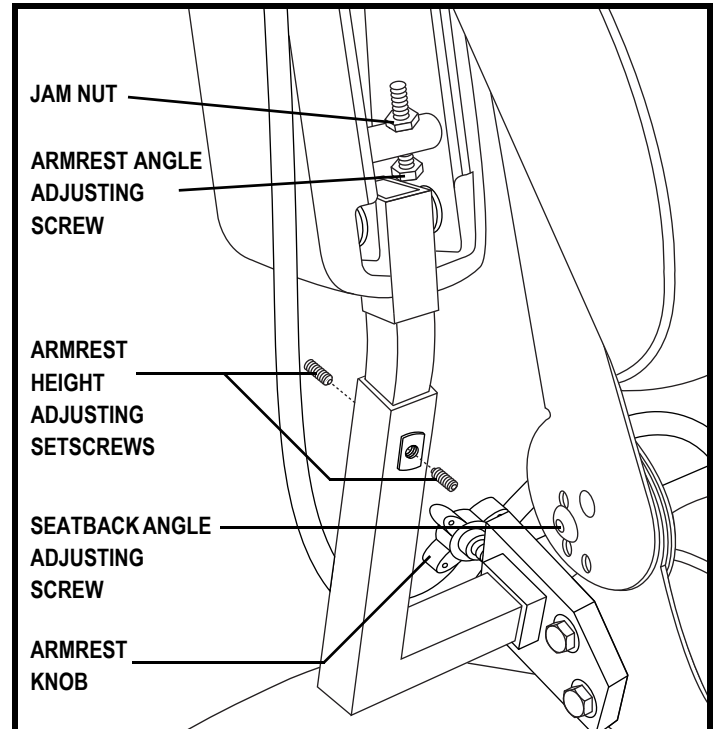

Figure 17. Seatback and Armrest Adjustment
1. Remove the adjusting screws from each seat hinge. **See figure 17.**
1. Locate the two armrest knobs on each side of the armrest receiver bracket. **See figure 17.**
1. Lift the armrest straight up so that it is perpendicular to the floor. **See figure 17.**
1. Loosen the two setscrews located on the armrest receiver. **See figure 17.**